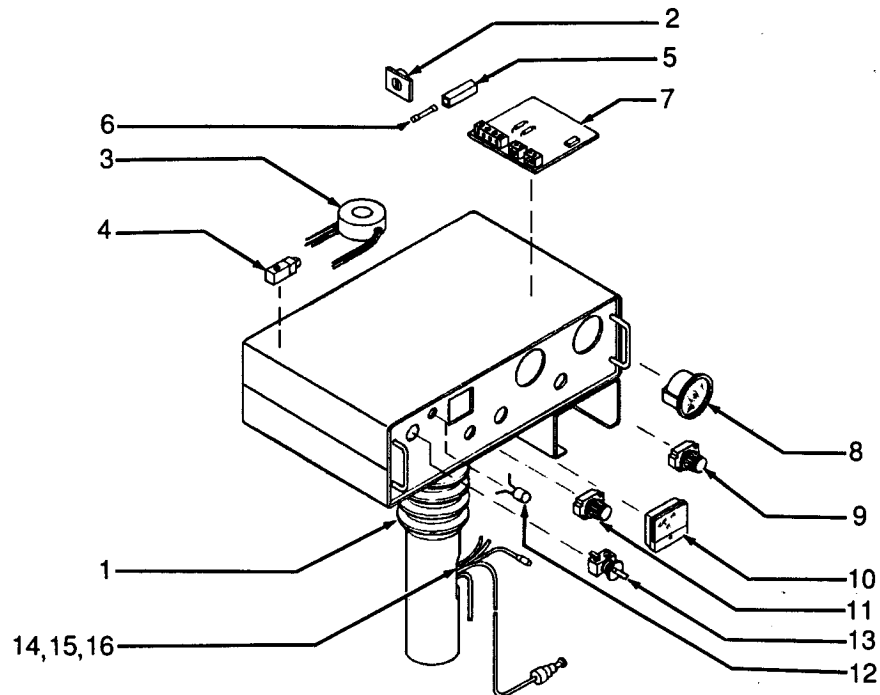

Figure 5 — Exploded View of Control Console
3. Check trigger cable connection. Trigger microswitch should click when depressed. Check continuity between pins 1 & 3 or 3 & 4 with trigger depressed. If trigger switch has malfunctioned ohmmeter will show open circuit. Refer to Figure 5 for pin designations. Check for 24VDC across trigger leads at circuit board. Replace circuit board if voltage not present.